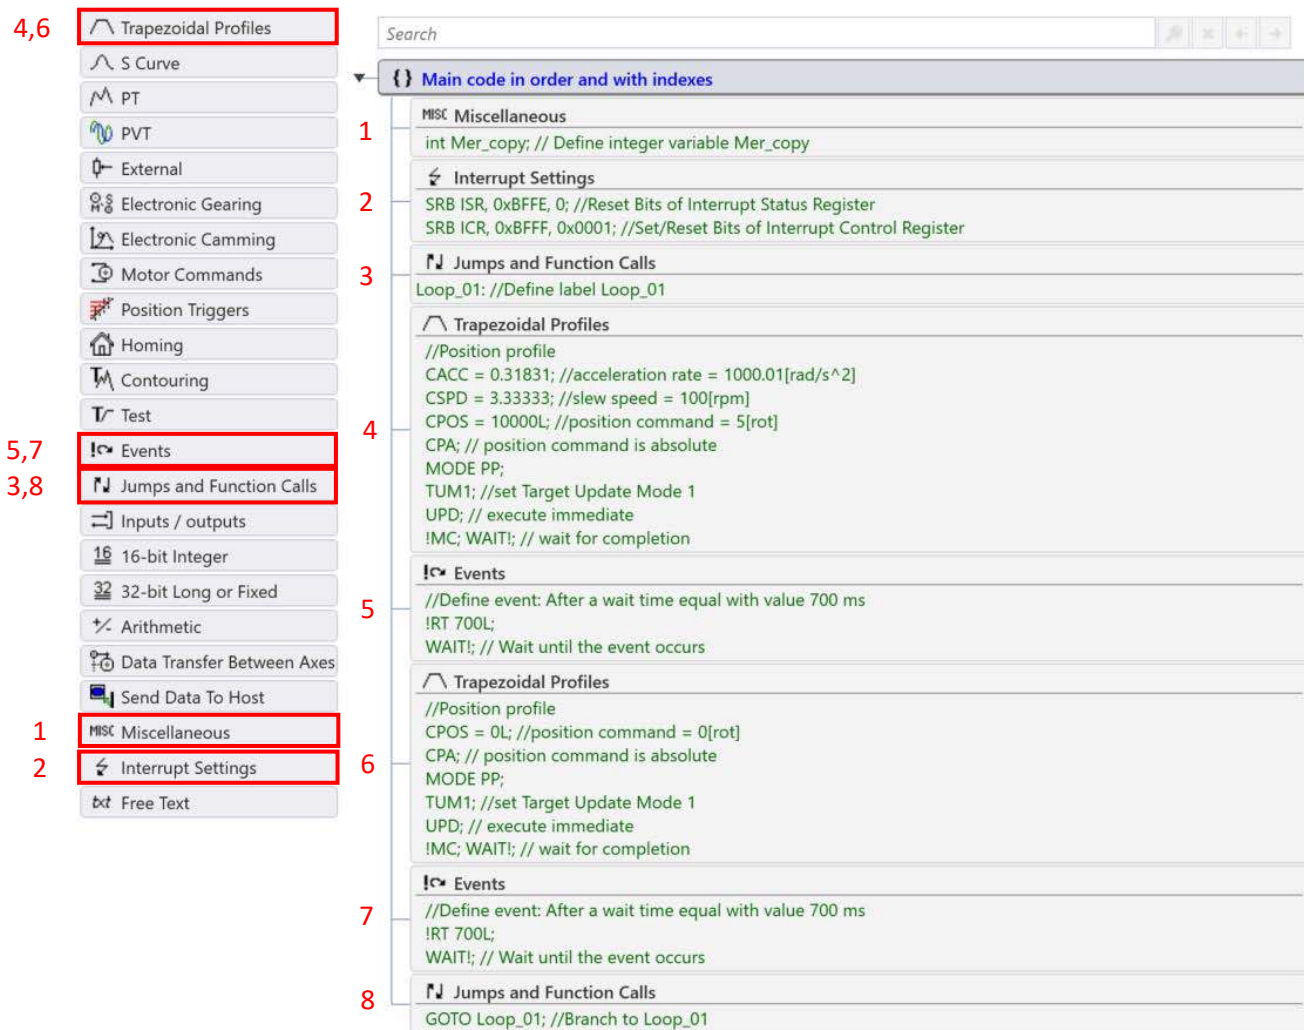

Figure 9 – Complete TML code with indexes.
The code sequence inside the “Motion” section was generated using the buttons marked with 1 to 8 in Figure 9. Clicking on those buttons the following programming dialogs will open:
- a) The user variables can be declared with the “Miscellaneous” dialogue (Figure 9 – step 1). Here, it was used to declare the “Mer_copy” variable required in the “int0 – Enable input has changed” interrupt service routine. Mer_copy will hold the value of MER register, integer 16-bit, therefore it will be defined as integer too.
- b) The “Interrupt Settings” dialog (Figure 9 – step 2) allows to enable, disable and clear previous requests of the TML interrupts. In this case it was used to activate the “Int0 – Enable input has changed” interrupt routine, that was used to implement the functionality described in the first section.
- c) The “Jumps and Function Calls” dialogue (Figure 9 – step 3 and step 8) allows controlling the TML program flow through unconditional or conditional jumps and unconditional, conditional or cancelable calls of TML functions.
Remark: For visual esthetics and easiness of read reasons, all figures from this point on will not showcase anymore the previously generated lines of code, as they will be grouped (displayed with the blue “Untitled” text). To make sure the instructions have been placed in the right order, see Figure 9.
- d) The “Motion – Trapezoidal Profiles” dialogue (Figure 9 – step 4 and step 6) allows to program a position or speed profile with a trapezoidal shape of the speed, due to a limited acceleration. In this case it was used to move the motor for 5 rotations and then to return to 0.
- e) The “Events” dialogue (Figure 9 – step 5 and step 7) allows defining events. An event is a programmable condition, which once set, is monitored for occurrence.